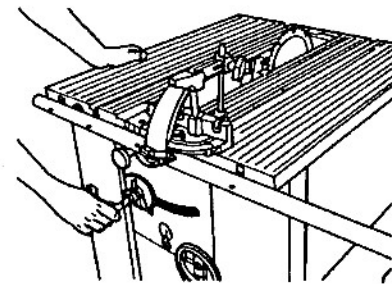

Fig. B-14
14. Slowly raise the blade until the handle meets resistance (this is the maximum height of the blade), as shown in Fig. B-14. Do **not** try to raise the blade beyond this point because it may affect alignment.